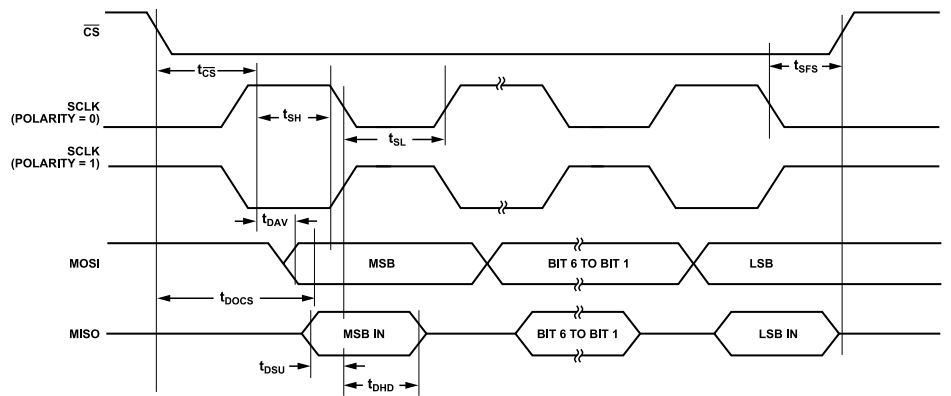
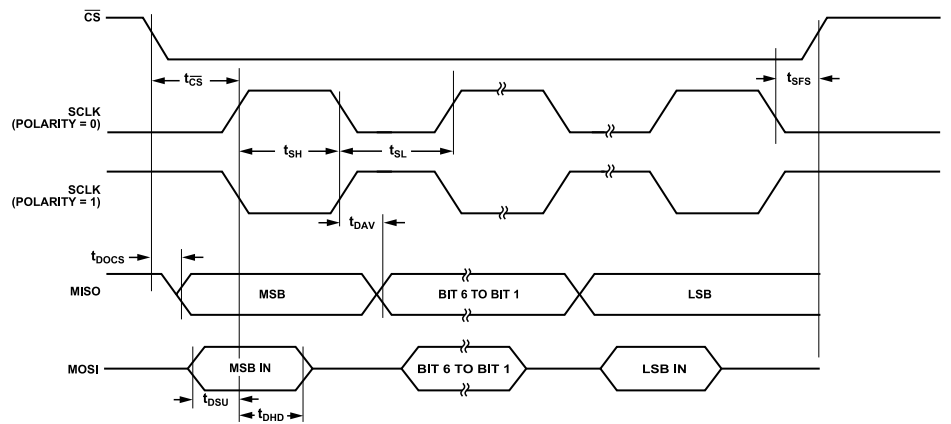

Figure 5. SPI Target Timing Diagram (Phase Mode = 1)
Figure 6. SPI Target Timing Diagram (Phase Mode = 0)
Table 5. SPI Target Mode Timing (See Figure 5 and Figure 6)
**Table 5. SPI Target Mode Timing (See Figure 5 and Figure 6) (Continued)**